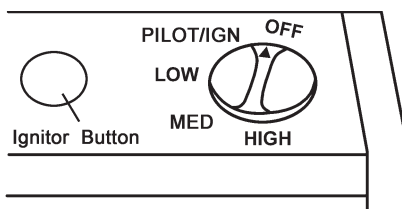

Figure 16 - Control Knob In The OFF Position (2696541)
3. Push in gas control knob slightly and turn clockwise ↻ to the OFF position (see Figures 16).